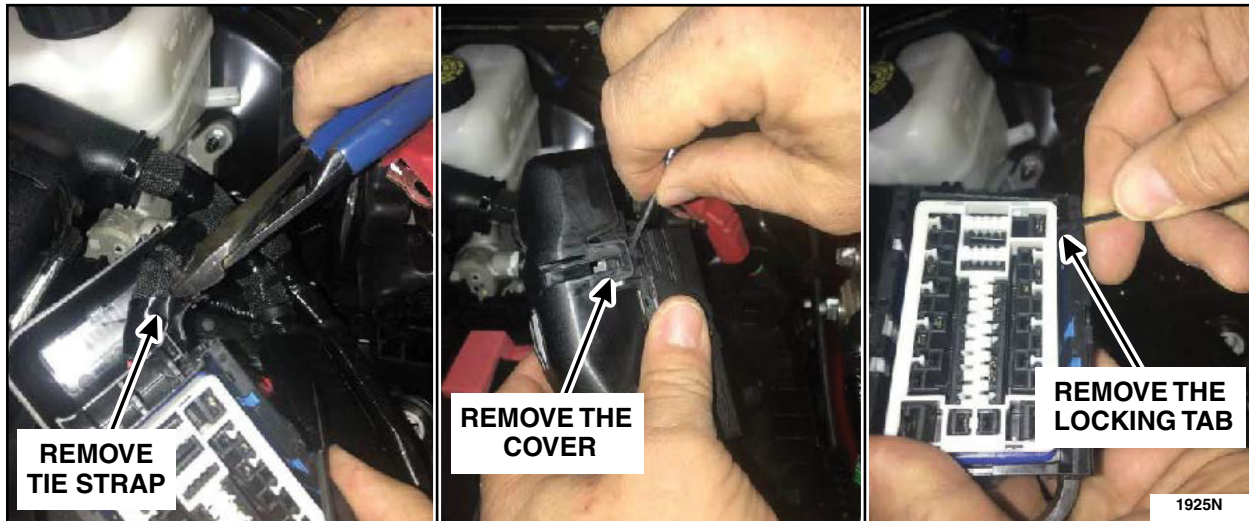

FIGURE 14
16. Remove the tie strap, cover on the LH battery junction box connector and the locking tab to access the pin connector. See Figure 14.